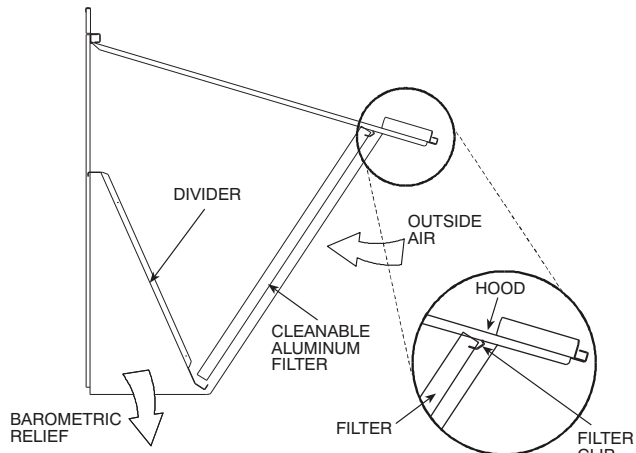

Fig. 31 — Economizer Filter Installation (Size 16)
6. Open the filter clips which are located underneath the hood top. Insert the aluminum filters into the bottom filter rack (hood divider). Push the filter into position past the open filter clips. Close the filter clips to lock the filters into place. See Fig. 31.